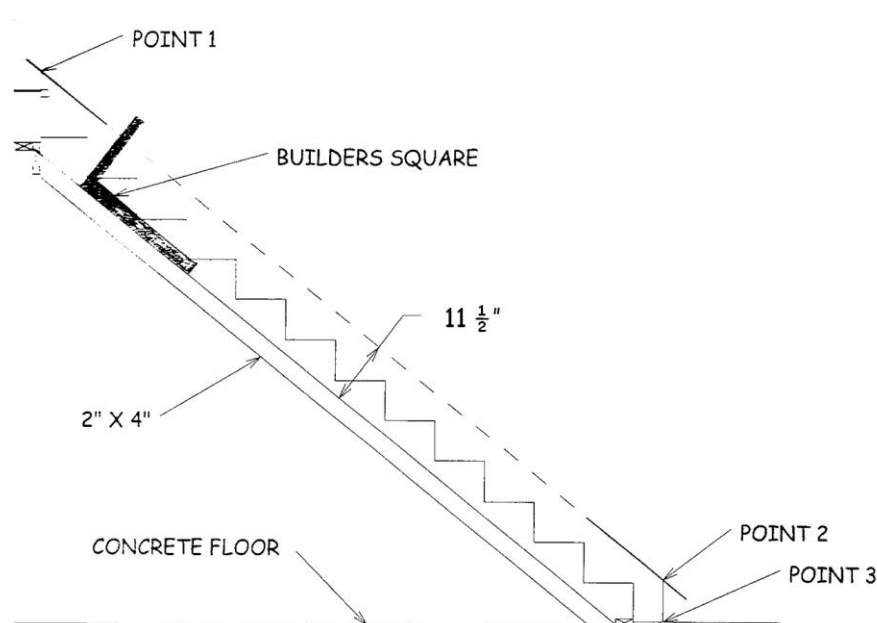

Figure 16-3. Skirtboard Installation.
- Lay the 24" side of a framing square on the 2x4. Make two marks 11 1/2" up from the 2x4 (the width of the skirtboard) about 3' apart at each end of the stairway. Repeat on the other side of the stairway. (See Figure 16-3.)
6. Place a 6' level on the two marks at the top of the stairway (from Step 5) and scribe a line across the two marks to a point that intersects the plumb lines from Step 3. This creates Point 1, which must be at least 3" above the floor to be higher than the floor trim (see Figure 16-3). Then, using the two marks at the bottom of the stairway (from Step 5), draw a line to a point that intersects the plumb line. This intersection is Point 2 (see Figure 16-3). Repeat on the opposite side of the stairway.